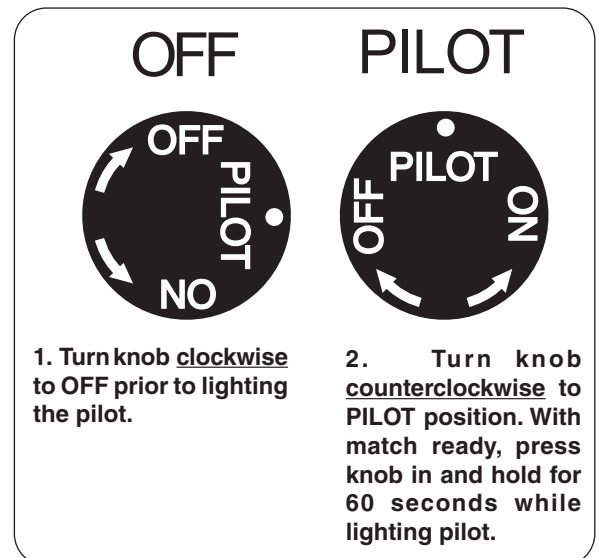

Fig. 29-1 Control knob detail (OFF, PILOT)
1. Locate the valve on the side of the unit. Push in the gas control knob slightly and turn clockwise to **OFF** (Fig. 29-1).
2. Turn the control knob counterclockwise to **PILOT** (Fig. 29-1). Push the control knob **firmly and fully** in and hold. Hold a long fireplace match or lighter near the thermocouple to light the pilot. Continue to hold the control knob in for approximately 60 seconds after the pilot is lit, then release the knob. The pilot will remain lit.